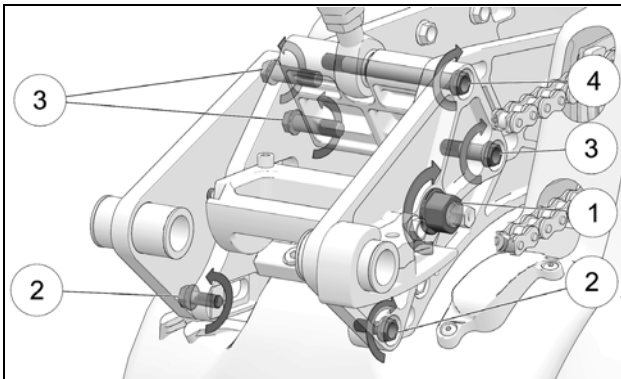

Figure 38
- Tighten in sequence: the eccentric bolt nut (1) to 61 Nm (45 lb-ft); the four M10 bolts (3-4) of the Strut block to 41 Nm (30 lb-ft); and the two M8 bolts (2) at the front of the Bike Mount to 25 Nm (18 lb-ft). See Figure 38.